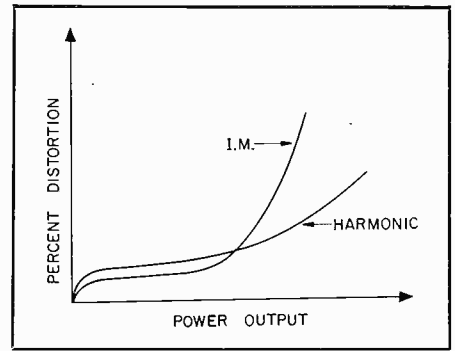

Figure 5—Comparison of I.M. and harmonic distortion in push-pull tubes.
Figure 5—(A) Separate safety panel results in four reflective surfaces and fogging; (B) Bonded Shield concept eliminates two reflective surfaces and dust collecting area.
high power levels. The approximate relationship between the two for a pair of tubes in push-pull operation is shown in Figure 5. The I.M. is slightly lower at low signal levels; but, as the power output increases, the I.M. climbs sharply, while harmonic distortion increases more gradually as the amplifier approaches rated power.